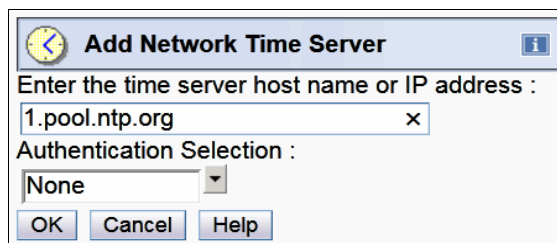

Figure 8-6 Add Network Time Server window
5. Click **OK** when you are finished making your selections (see Figure 8-6).